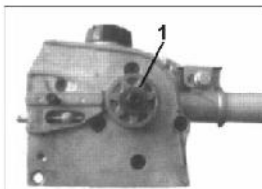

Fig.PP15
3. If the sprocket is excessively worn, replace it with a new one. (See Fig.PP15)